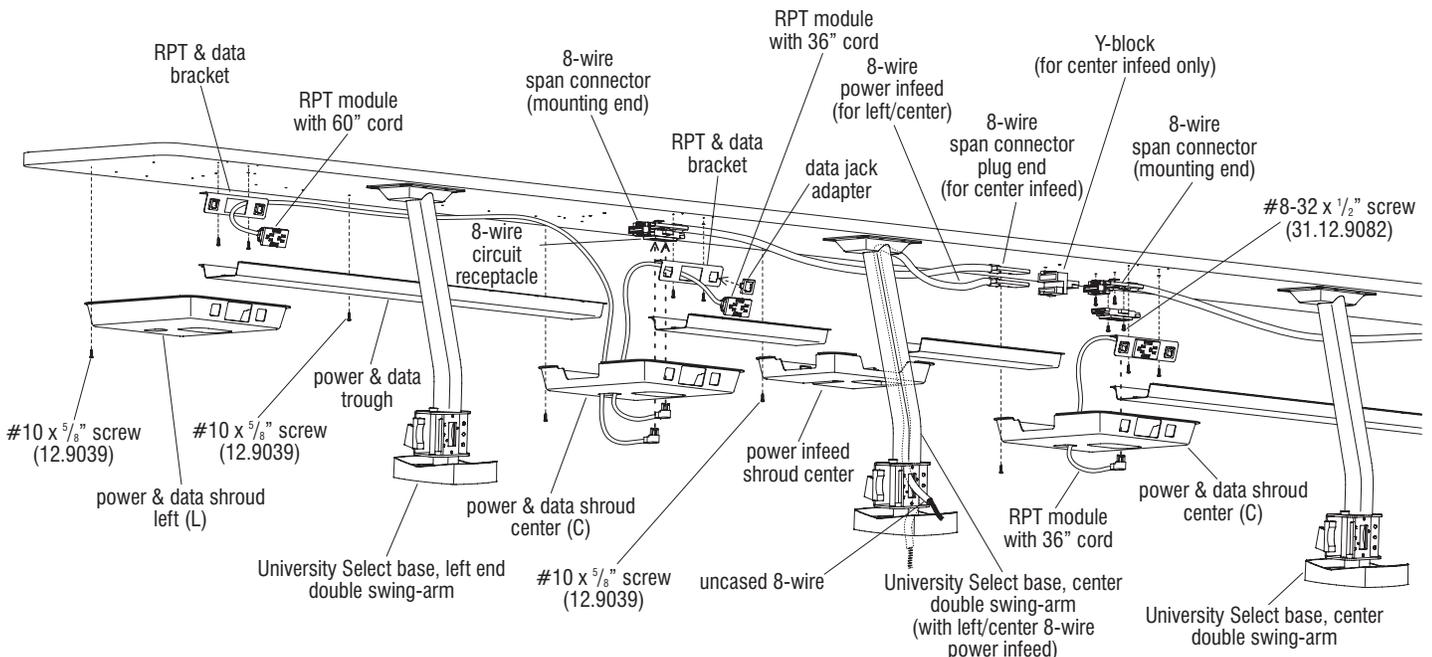

Figure 19 - Left & Center 8-Wire Power Infeed with Double Swing-arm Ends (Power Infeed Detail)
72. To begin installing undersurface 8-wire span connectors, look to the right-hand side of the left/center power infeed base and locate the set of span connector pre-drilled mounting holes in the worksurface, midway between the left/center power infeed base and the base just to the right. Install a span connector (mounting end) to the underside of the worksurface using two #10 x 5/8” screws as illustrated, torque screws to 25 in/lbs. Allow the plug end to hang down for the time being (Figure 19 & Detail A, page 15).
- 74. As illustrated, for “center” power infeed, install a “Y-block” into the “mounting end” of the span connector which was just installed to the right of the power infeed base. Snap the plug-end of the power infeed into the bottom section of the Y-block (Figure 19).
the pre-drilled mounting location to the left of the center power infeed base. Secure the mounting end of the 8-wire span connector to the underside of the worksurface using two #10 x 5/8” screws as illustrated. Torque screws to 25 in/lbs. Then snap the plug end of the span connector into the open port in the Y-block, installed in the previous step (Figure 19).
- 76. Per the space-planning layout for center power infeed layouts, continue installing 8-wire span connectors as in step 75 previously, without need for any additional Y-blocks to connect span connectors together (Figure 19).
- 77. For “left” power infeed layouts, snap the plug end of the power infeed into the mounting end of the 8-wire span connector which was just installed in step 72 (Figure 19).
78. Next, per the space-planning layout continue down the line to the right and install the mounting end of a span connector to the underside of the worksurface using two #10 x 5/8” screws as illustrated. Torque screws to 25 in/lbs. Snap the plug ends of the span connectors into the mounting ends as you go down the line (Figures 19 & 20, Detail B, page 15).
79. Follow correct circuit designations and install 8-wire circuit receptacles to the mounting end of all span connectors using two #8-32 x 1/2" screws provided and torque to 20 in/lbs (Figures 19 & 20, Detail B, page 15).
81. Locate the mounting holes for the RPT & data bracket (Details A & B, page 15). Install the RPT & data bracket to the underside of the worksurface with two #10 x 5/8" screws torqued to 25 in/lbs (Figures 19 & 20).
same as in power infeed locations (Figures 19 & 20). From behind the RPT & data bracket, snap the appropriate data lines into the data jack adapters.
83. Following the space-planning layout, install RPT modules to the RPT & data brackets following the directions below. **Important: RPT & data bracket locations at the end of "double swing-arm" University worksurfaces must use a RPT module with a 60" long cord. At all other RPT & data bracket locations, a RPT module with a 36" cord is to be used.** Install RPT modules by first routing the cord through the opening in the RPT & data bracket, then snap the module into place. Allow 36" long receptacle cords to hang down until a later step. Take the 60" long cords and route them through the power & data trough, toward the appropriate 8-wire circuit receptacle and allow the plug end to hang down until a later step (Figures 19 & 20).
Note: There are three types of power & data shrouds for double swing-arm end configurations which may be specified on the space-planning layout. All of these shrouds have cut-outs facing the student side for the student receptacle and data jacks, and two cut-outs at the bottom, one for the 8-wire circuit receptacle, and the other for routing the cord of the RPT module(s) through, to loop back and plug into the circuit receptacle. **“Center (C) power & data shrouds”** have a cut-out at each side of the shroud for power & data troughs. **“Left (L) power & data shrouds”** have no cut-outs at the bottom and only one cut-out at the right-hand side for a power & data trough. **“Right (R) power & data shrouds”** have both cut-outs at the bottom and only one cut-out at the left-hand side for a power & data trough (Figures 19 & 20).
85. Following the space-planning layout, locate the correct position for the various power & data shrouds along the run of worksurfaces. For “center” (C) shrouds, position the shroud up to the worksurface and allow the cord of the RPT module(s) to drop down through the front-most cut-out as illustrated. Both the RPT module and data jacks, as well as the bottom-facing circuit receptacle should protrude through their appropriate cut-outs in the shroud. For “left” (L) and “right” (R) shrouds, only the RPT module and data jacks will protrude through the cut-outs. Secure all power and data shrouds to the underside of the worksurfaces using #10 x 5/8"
screws torqued to 25 in/lbs in pre-drilled holes at the underside of the worksurfaces (Figures 19 & 20 and Details B & C, page 15).
86. At “center” (C) power & data shroud locations, loop the hanging cord and insert the plug end of the RPT module into the bottom facing circuit receptacle. Push any excess cord back into the shroud and out of the way.
87. At the power infeed location, position the power infeed shroud (center, with cut-outs on each side for power & data troughs) up into position, making sure the troughs fit into it correctly and that the shroud back mates correctly with the base’s upper mounting flange. With a pencil, mark the mounting hole locations, then use a 1/8" diameter drill bit and pre-drill to 1/2" depth, taking care to not penetrate the worksurface. Install power infeed shroud using #10 x 3/8" screws provided and torque to 25 in/lbs (Figures 19 & 20).